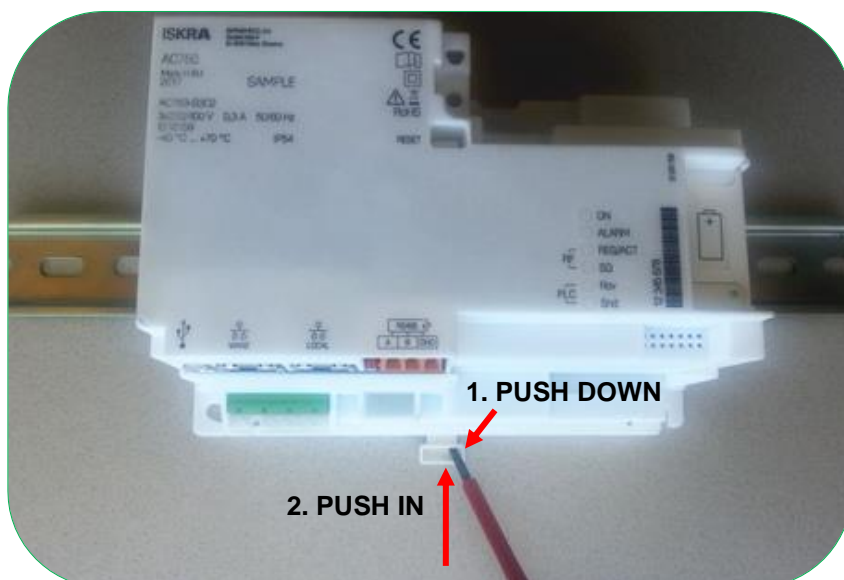

Figure 57: Locking the mechanism
4. Lock the mechanism (Figure 57).